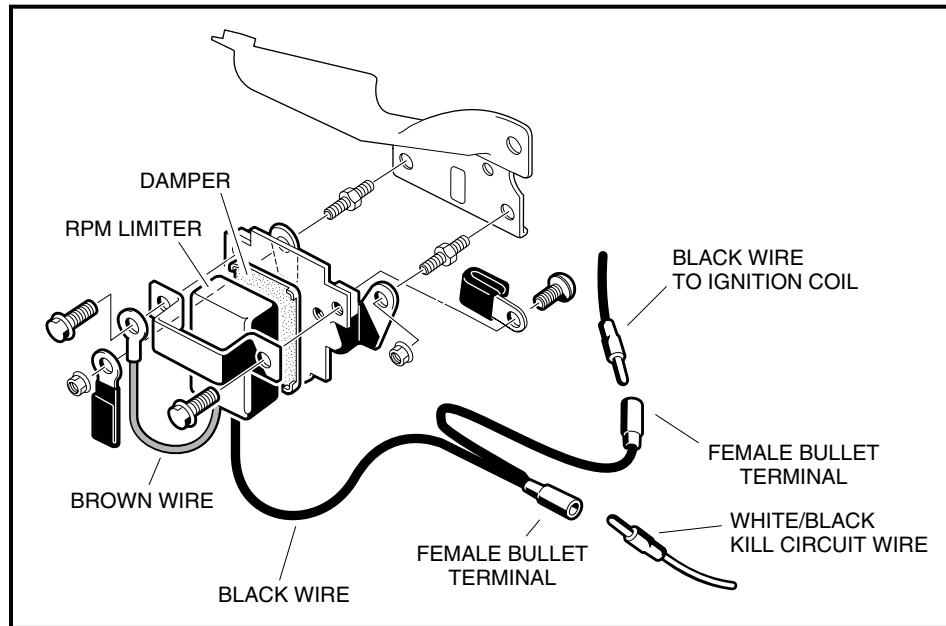

Figure 12a-26 RPM Limiter Assembly
4. Disconnect the white/black wire from the black wire at the bullet connector located near the RPM limiter (**Figure 12a-26, Page 12a-27**).
6. Remove the flange head bolts from the RPM limiter band and remove the RPM limiter and damper (**Figure 12a-26, Page 12a-27**).
2. Place the RPM limiter with damper on the front of the RPM limiter mounting bracket (**Figure 12a-26, Page 12a-27**).